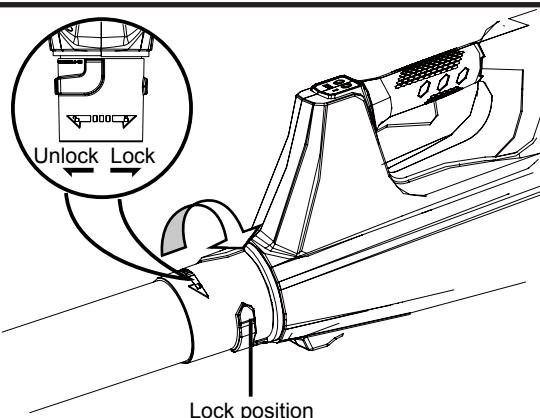

Fig. 3
2. Turn the tube in the direction of the arrow until both of the tabs slide into the lock positions. Clockwise to Lock and Counter Clockwise to remove (Fig. 3).